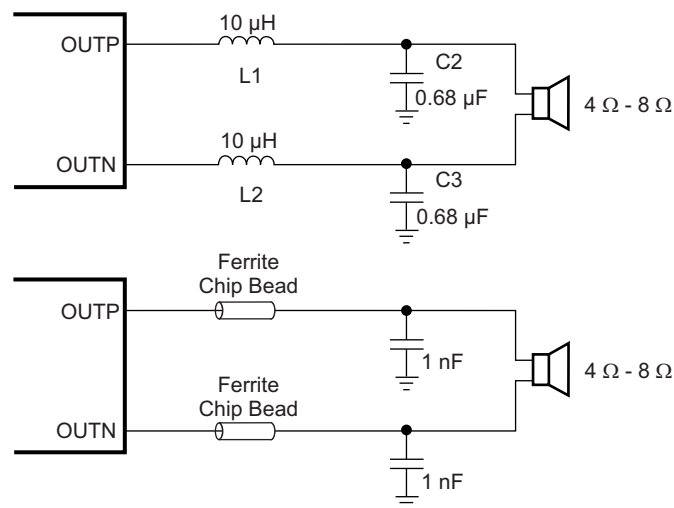

FIG 33. TPA31xxD2 Output Filters
- Output filter — The ferrite EMI filter (see Figure 33) should be placed as close to the output terminals as possible for the best EMI performance. The LC filter should be placed close to the outputs. The capacitors used in both the ferrite and LC filters should be grounded.